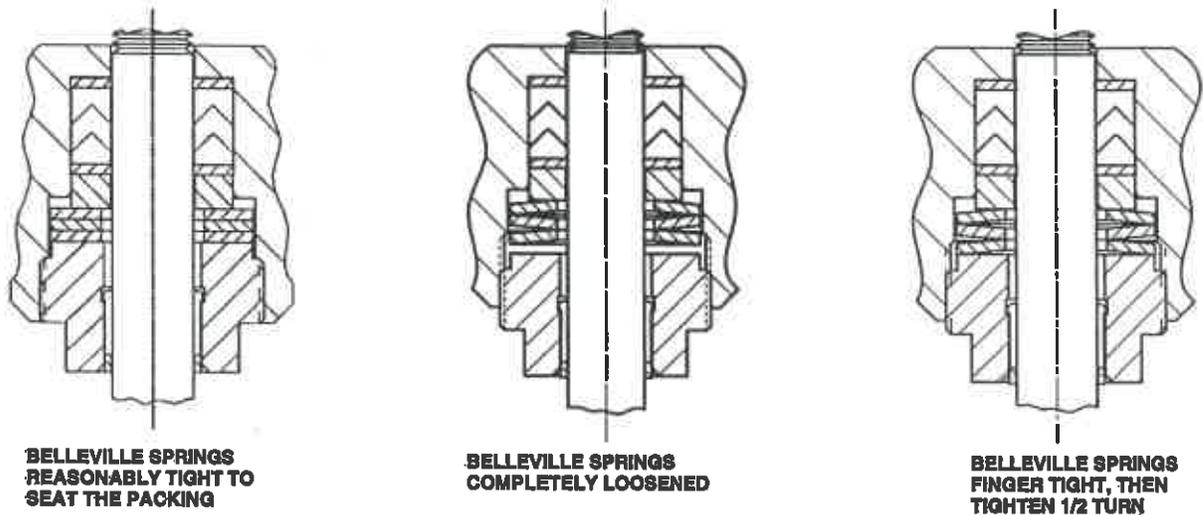

Figure 4. Belleville Spring Procedure
17. Apply a light film of Dow Corning 111 lubricant or equivalent (key 33) to the threads of the packing retainer (key 7).
18. Install the packing retainer into the bonnet and tighten until the Belleville springs (key 9) are reasonably tight to seat the packing. See figure 4.
19. Completely loosen the packing retainer to relieve all Belleville spring compression. See figure 4.
20. Retighten the packing retainer with your fingers until the packing retainer contacts the Belleville springs. See figure 4.
21. Tighten the packing retainer 1/2 turn clockwise. See figure 4.
22. If the bottom casing (key 20) has been removed, place O-ring (key 16) into the groove provided in the top of the bonnet. Place the bottom casing on the bonnet, oriented in the same position as marked in step 7 on page 7. Screw the hex nut (key 18) onto the bonnet, and tighten to 203 N•m (150 lbf•ft).